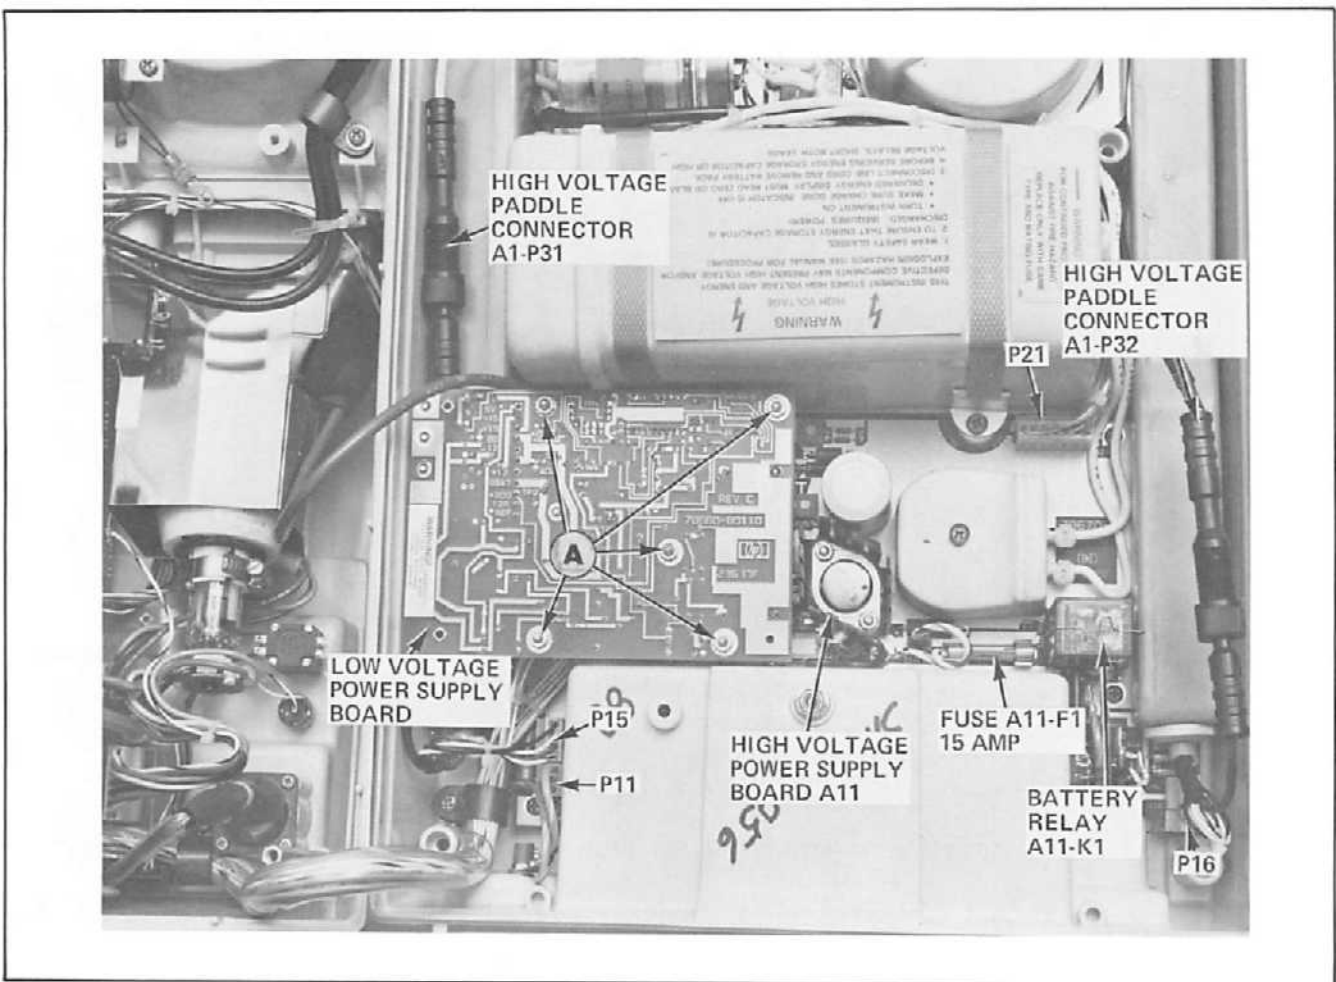
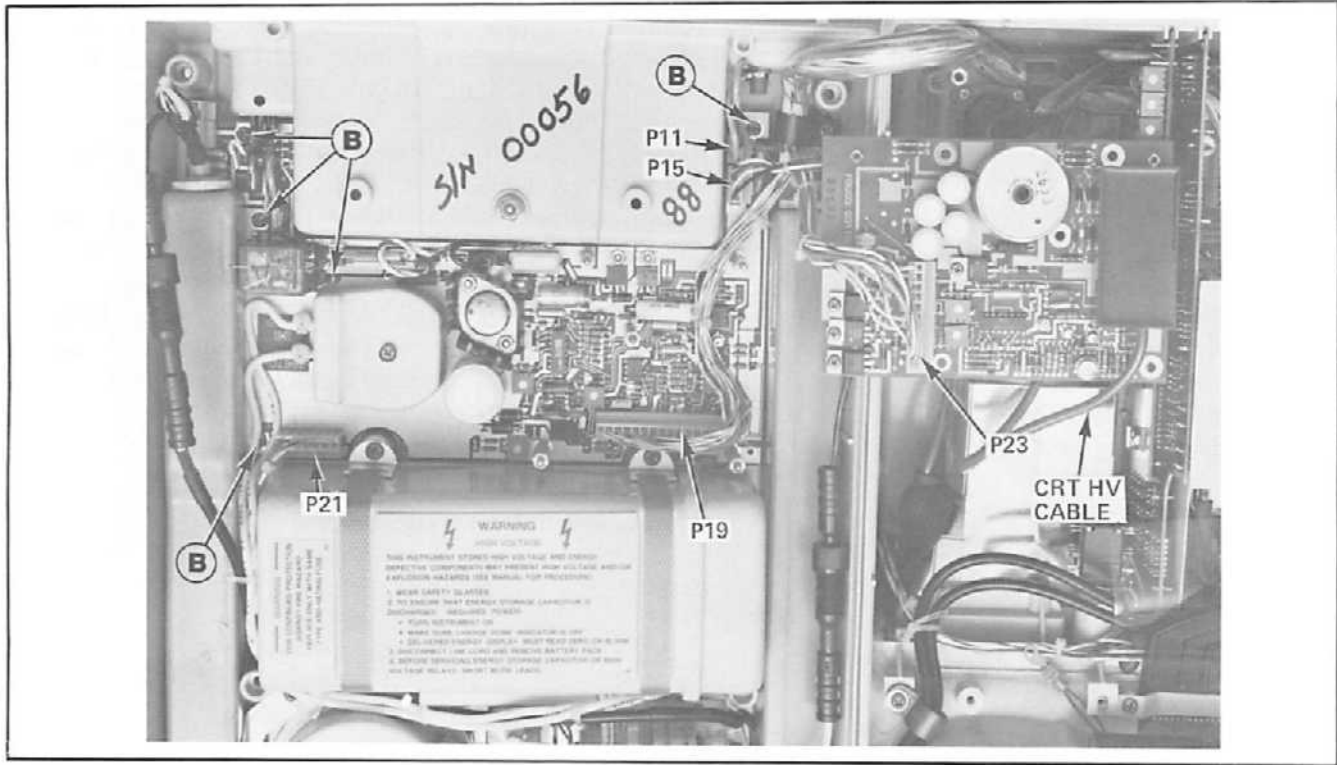
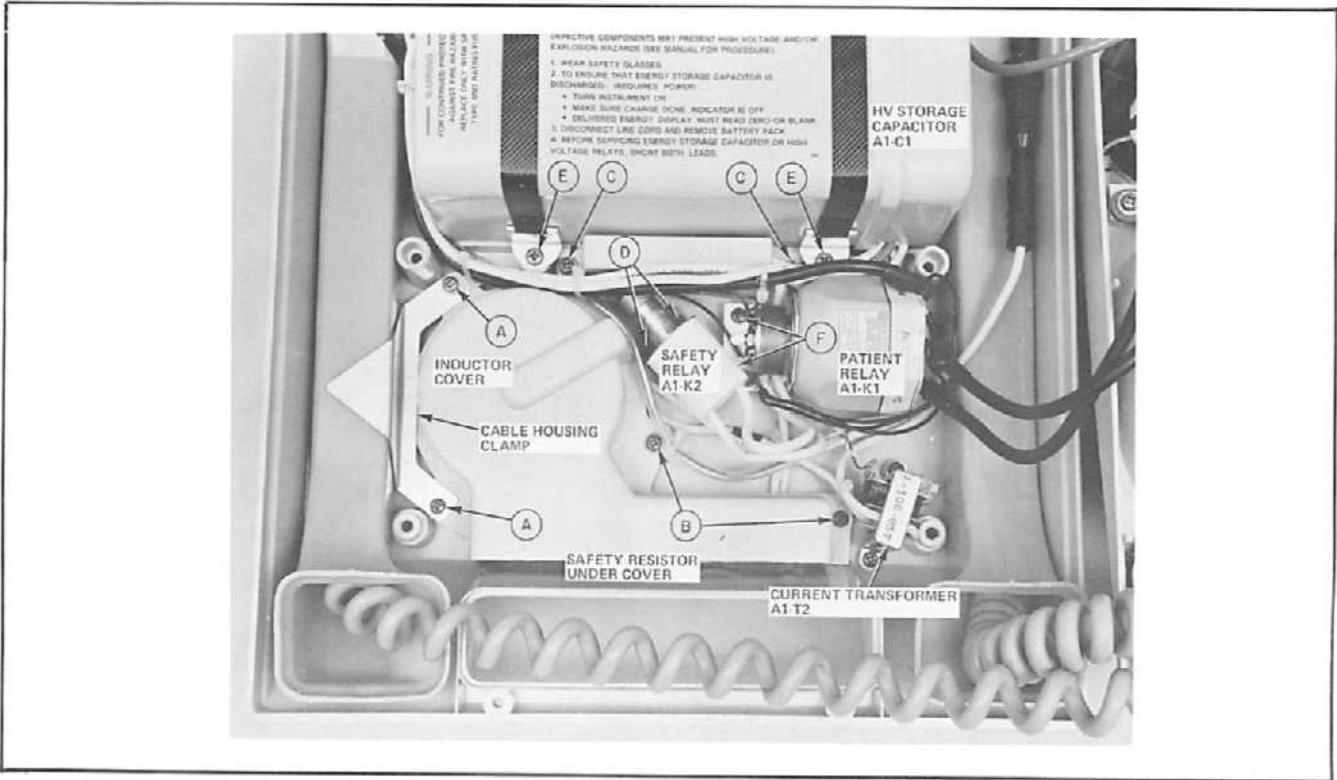

Figure 4-4. (78671A)
Figure 4-5.
Figure 4-6.
3. Remove the five hex nuts (A) that secure the L.V. power supply board. See Figure 4-4.
4. Lift the board free and disconnect P23. See Figure 4-5.
5. Remove the H.V. cable from the CRT. See Figure 4-5.
2. See Figure 4-4. At the rear of each cable housing is a 4 pin connector, P15 and P16, and part way along the side is a high voltage connector, P31 and P32. Disconnect the cables for the side you wish to replace. Unscrew the ring from the H.V. connector body and pull apart.
3a. Apex side cable housing removal: See Figure 4-4. Remove the five hex nuts that secure the low voltage power supply board. Turn the board over and disconnect the cable from the board (P23) (see Figure 4-5)
3b. Sternum side cable housing removal: Disconnect P16 near the rear of the cable housing (see Figure 4-4). Remove the two screws (A) (see Figure 4-6), that secure the cable housing clamp.
3. Unplug the paddle and ECG output connectors (see Figure 4-4, P11, P15, and P16).
4. On the 78671A and 78670A, option A03, the sternum cable in-line high voltage connector, P32, must be disconnected and the sternum cable housing removed. Unscrew the collar and pull the connector apart (Figure 4-4).
5. Remove the two screws (A, Figure 4-6) that secure the cable housing clamp. Lift the housing out and set it aside. See Section 4.2.2.2 for details on cable housing removal.
6. Remove the five hex nuts that secure the low voltage power supply board. Lift the board out and lay it aside. It is not necessary to disconnect the cables (see Figure 4-4).
8. Remove the five hex posts (see Figure 4-5).
10. Disconnect P19, the P40 and P41, H.V. output leads from the H.V. rectifier assembly (See Figure 4-5). Disconnect P21 and P11.
11. Remove the four screws (B) that secure the board. Lift the board out.
2. See Figure 4-6. Remove the two capacitor clamp screws (E). Lift off H.V. terminal cover.
2. Remove two capacitor clamp screws (E) (Figure 4-6) and lift it off the capacitor cover.
4. Remove the screws securing the inductor cover. Figure 4-6 shows the Model 78671A in which the two screws labelled (A) also fasten the sternum paddle cable housing clamp. Remove these screws labelled (A) and (B) and lift off the inductor cover.
5. Remove the capacitor clamp screws ((E) Figure 4-6) and lift off the capacitor cover. Short the capacitor as described in Section 4.2. Draw a diagram of the relay wires to aid reassembly.